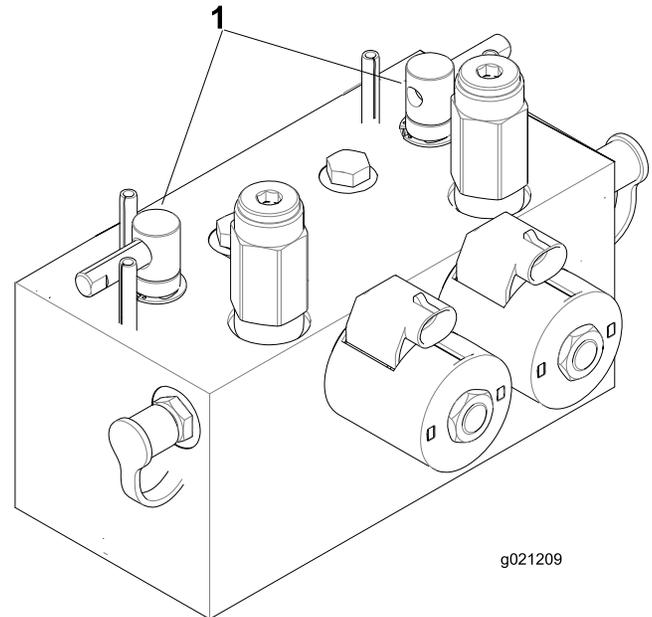

Figure 74
2. Unlock and raise the seat to expose the backlap levers (Figure 74).
5. Select either front, rear, or both backlap levers to determine which units to backlap (Figure 74).